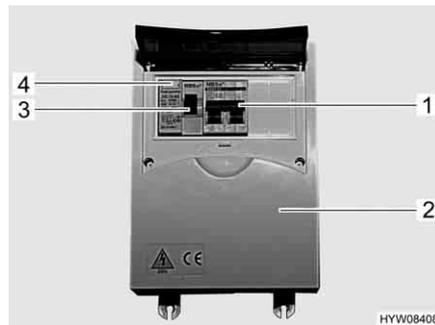

Fig. 48 230 V fuse box with safety cut-out and FI-switch
A fault current protection switch (FI-switch) (Fig. 48,3) in the fuse box (Fig. 48,2) protects the complete vehicle from fault current (0.03 A).
The downstream safety cut-out (10 A) (Fig. 48,1) secures the 230 V sockets, the refrigerator and the transformer/rectifier.
- When the vehicle is connected to the 230 V power supply, press the test button (Fig. 48,4). The fault current protection switch (FI-switch) must be activated.